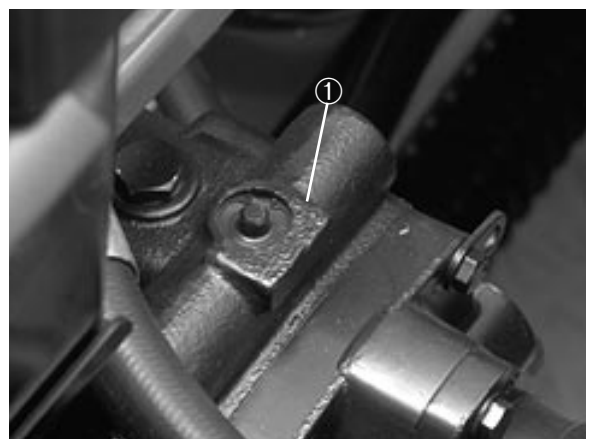

Fig. 18
1. The by-pass valve is located on the top of variable displacement pump (Fig. 18). Rotate the valve 90° in either direction, to open and allow oil to by-pass internally. Because fluid is by-passed, the machine can be moved—slowly—without damaging the transmission.